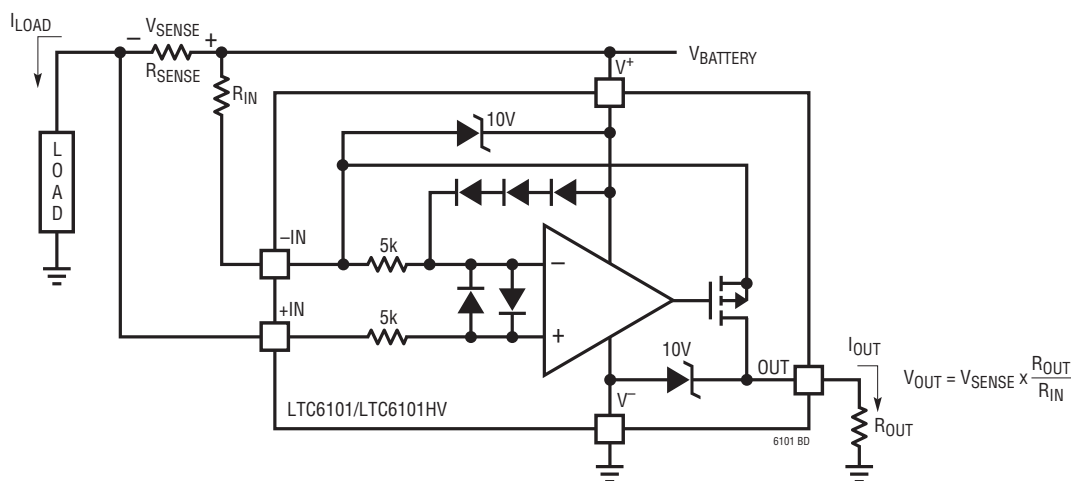

Figure 1. LTC6101/LTC6101HV Block Diagram and Typical Connection
ELECTRICAL CHARACTERISTICS (LTC6101HV) The ● denotes the specifications which apply over the full operating temperature range, otherwise specifications are at $T_A = 25^\circ\text{C}$, $R_{IN} = 100\Omega$, $R_{OUT} = 10k$, $V_{SENSE}^+ = V^+$ (see Figure 1 for details), $5V \leq V_S \leq 100V$ unless otherwise noted.
-IN: The internal sense amplifier will drive IN⁻ to the same potential as IN⁺. A resistor (R_{IN}) tied from V⁺ to IN⁻ sets the output current $I_{OUT} = V_{SENSE}/R_{IN}$. V_{SENSE} is the voltage developed across the external R_{SENSE} (Figure 1).
The LTC6101 high side current sense amplifier (Figure 1) provides accurate monitoring of current through a user-selected sense resistor. The sense voltage is amplified by a user-selected gain and level shifted from the positive power supply to a ground-referred output. The output signal is analog and may be used as is or processed with an output filter.